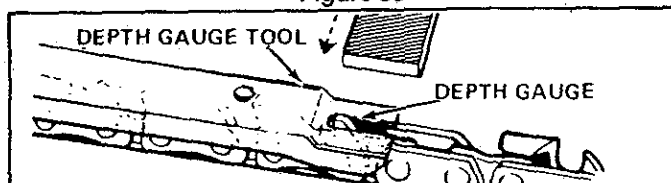

Figure 36
- Place depth gauge tool (Catalog No. 71-36557) over each cutter depth gauge. Figure 36.